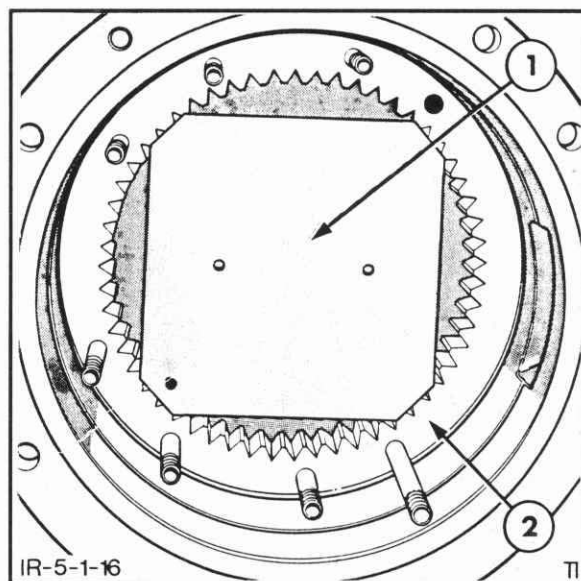

Figure 5-16
e. Place the axle housing on a press beam with the large end up. Position Tool #FT4500 or 2122 on the ring gear, Figure 5-16, and press the ring